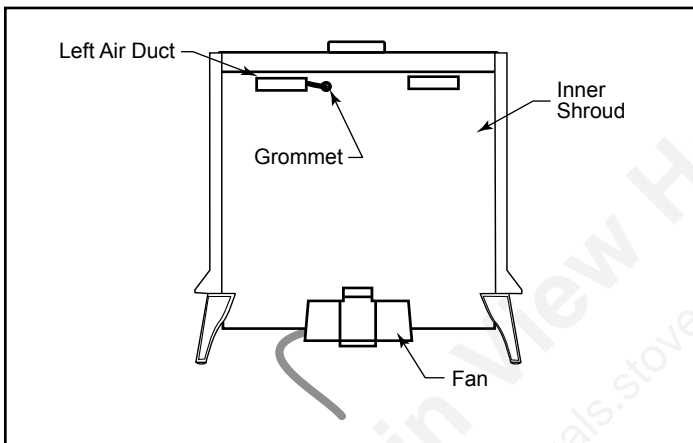

Figure 70 - Attach snapstat wire assembly to inside of inner shroud with clamp screws.
4. Place the grommet provided in the parts bag assembly on the inner shroud. Run the snapstat extension assembly leads through the grommet toward the firebox. (Figure 70)